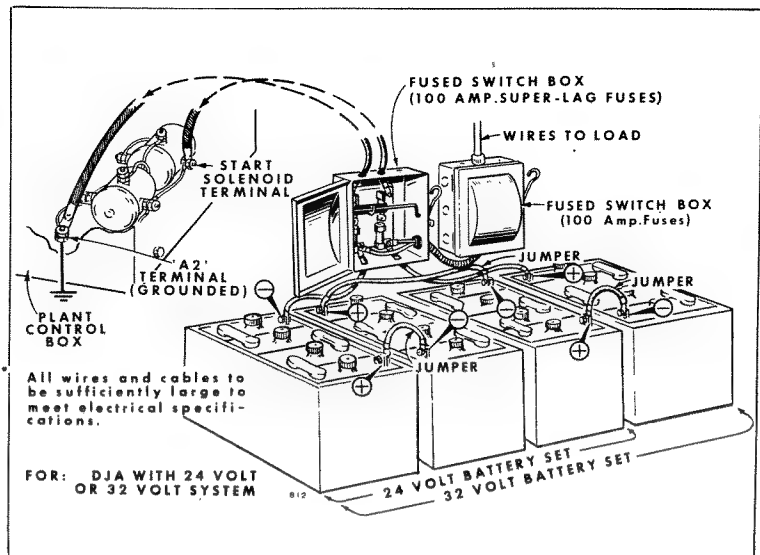

Fig. 9 Battery and DC Load Connections
**BATTERY CONNECTION (Exciter Cranked Plant - Model DJA with 24-volt or 32-volt systems).** - Refer to the wiring diagram and figure 9. The dual purpose plants and battery charging plants have GROUNDED system. Battery ground is negative, reversible in the field. Battery polarity must agree with polarity of other electrical equipment aboard a vessel. If the positive lead is grounded, reverse the
For connecting the 32-volt dc load, refer to instructions as given for the 32-volt battery charging plant and figure 9.
Make connections from the main line switch to the fused battery switch. Connect leads to the terminals on the battery side of both switches. Observe the same polarity used in connecting the battery. Refer to the Battery Connections figure 9.